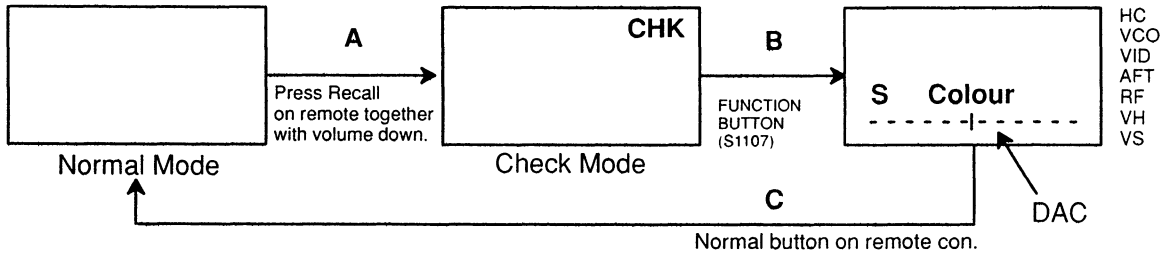

Fig. 9
- The TV in the Normal mode changes to check mode. "CHK" will appear on the screen as shown in Fig. 9.
- B: Press the Function button (S1107) to select the required adjustment to be adjusted as shown in Fig. 9. Press the Volume "up" or "down" button (S1111 & S1110) to change the DAC level.